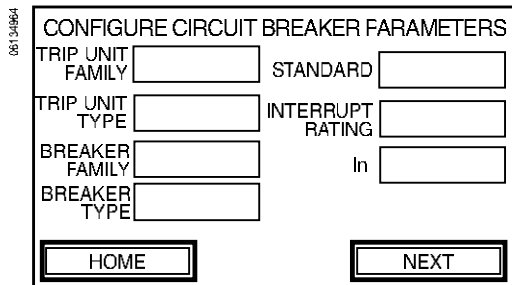

Figure 13: Configure Circuit Breaker Parameters Screen
2. Once all parameter values have been entered and confirmed on the Configure Circuit Breaker Parameters screen (Fig. 13), press NEXT to advance to Select Circuit Breaker Test screen.